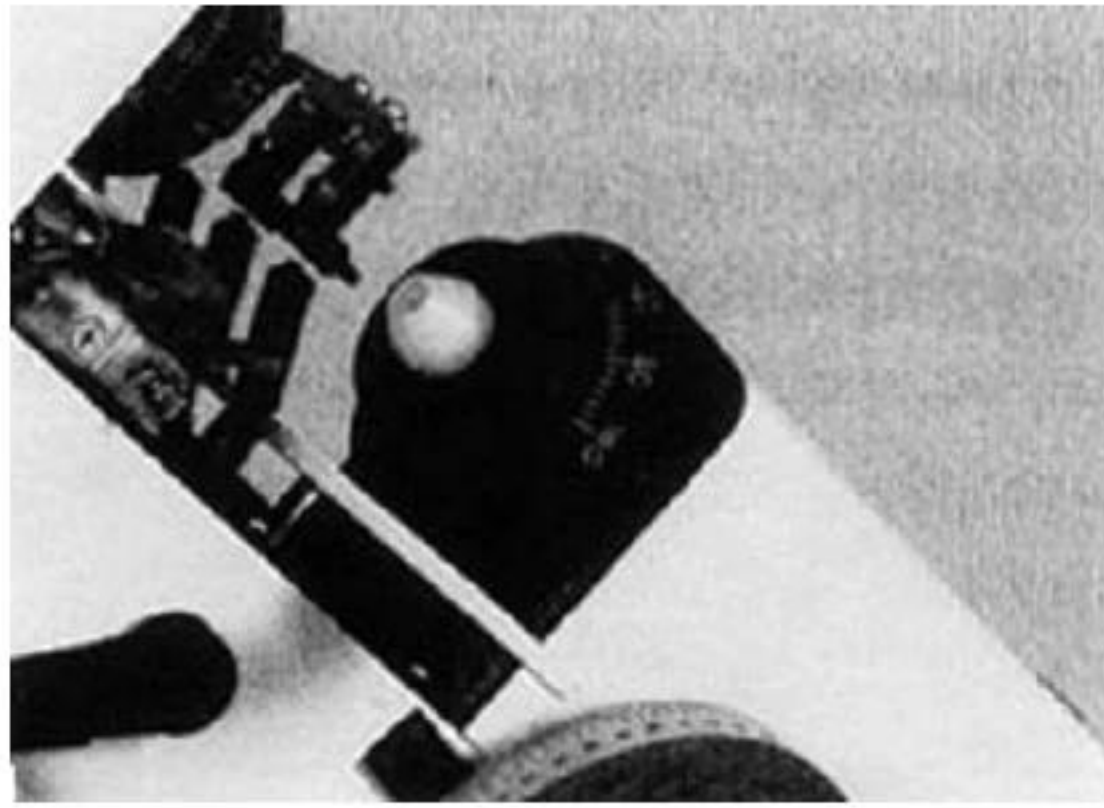

Fig. 10
3.8 Objective lens bearing seat (Fig.10)